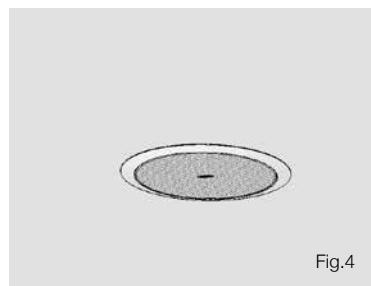

Fig.4
6. Insert grille by pushing it onto the speaker. (Fig.4)